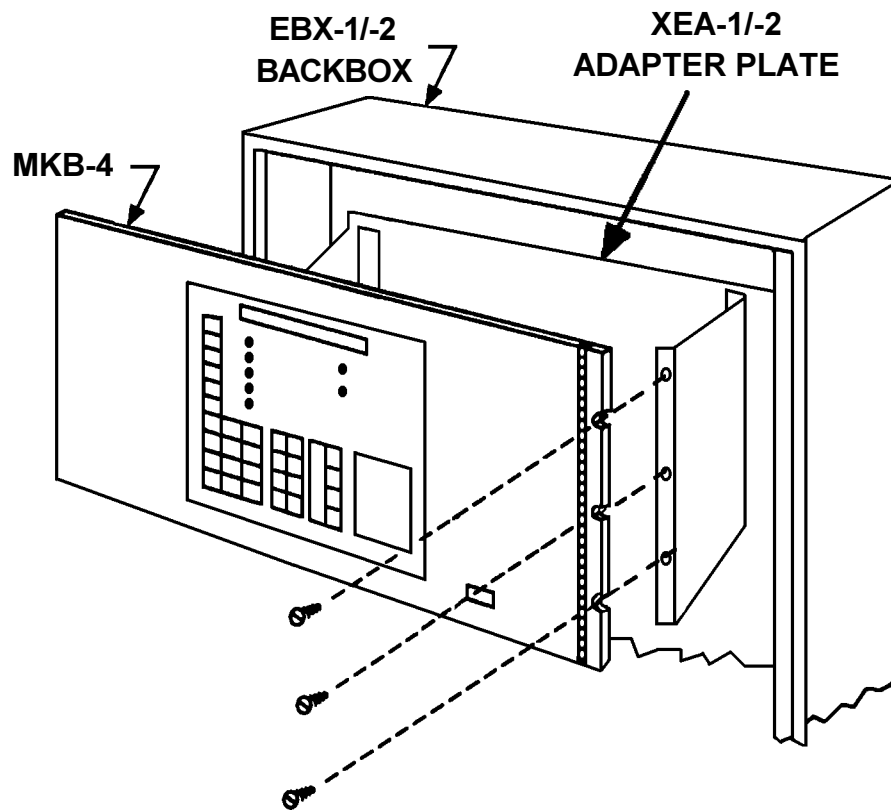

Figure 4
2. Mount the MKB-4 on the right bracket using the hardware supplied with this module as shown in Figure 4. Install 3 screws in the 3 tapped holes in the right flange. Leave a 1/8-inch gap between the head of the screw and the flange. Slide the slots of the MKB-4 panel hinge under the head of the screws. Adjust the position of the MKB-4 so that the module opens smoothly and closes securely against the magnet. Tighten the screws.